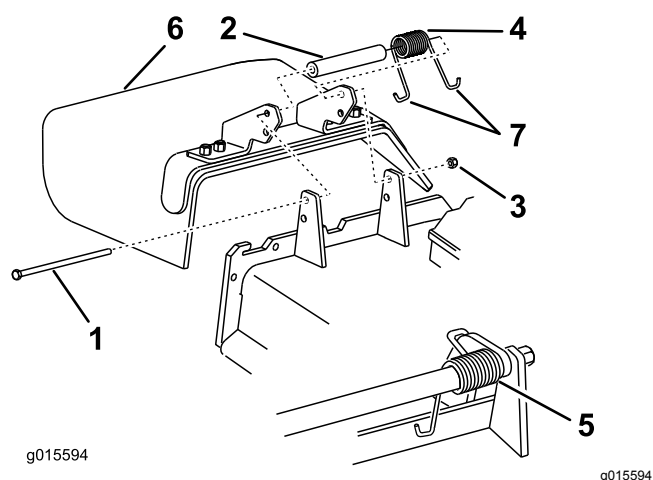

Figure 105
1. Remove the locknut, the bolt, the spring, and the spacer holding the deflector to the pivot brackets (Figure 105).
2. Remove the damaged or worn grass deflector (Figure 105).
Note: Make sure that the J-end of the spring is installed behind the deck edge before installing the bolt as shown in Figure 105.
6. Place the J-hook end of the spring around the grass deflector (Figure 105).